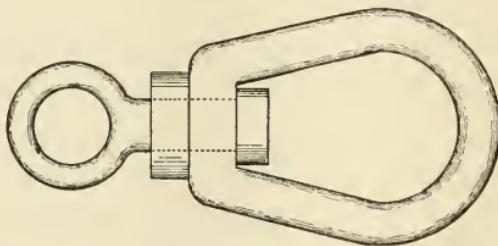

FIG. 202.—COMPLETED SWIVEL.
7. **Welding the link.** — Weld the arms together and shape as represented by Fig. 202.